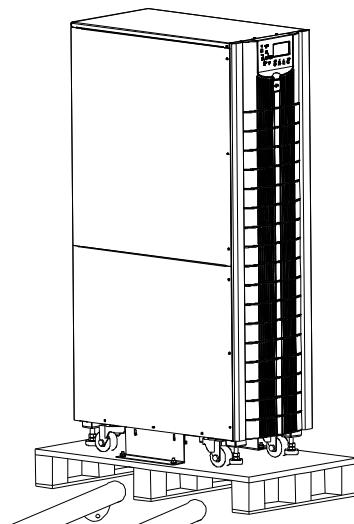

Figure 2-4 Remove the protective foam
4. Remove the protective foam around the cabinet as shown in Figure 2-4.